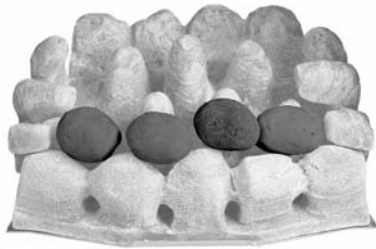

Fig. 28
5. Pick out the smallest two pebbles and lay to one side, lay the first row of four loose pebbles on top of the front coal. Ensure the back of the pebbles are resting on the fuel bed and there are even gaps all round (Fig. 28).